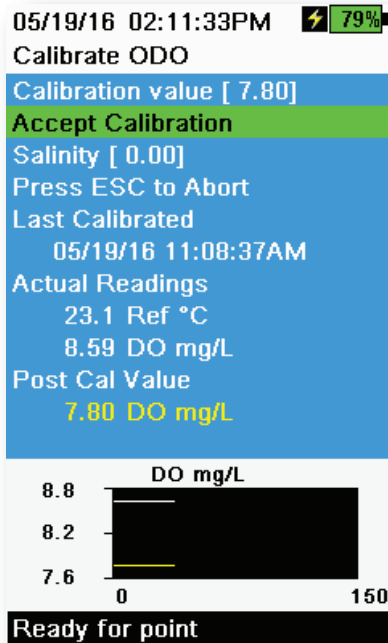

Figure 49 Calibrate ODO mg/L
5. Observe the actual measurement readings for stability (white line on graph shows no significant change for 40 seconds), then select **Accept Calibration** (Figure 49). "Calibration successful!" will be displayed in the message area.